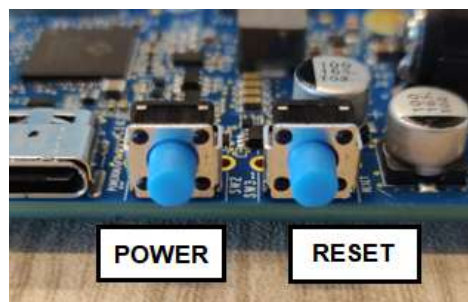

Figure 9. Power and reset buttons
6. Using the buttons shown in Figure 9, power on the SBC.